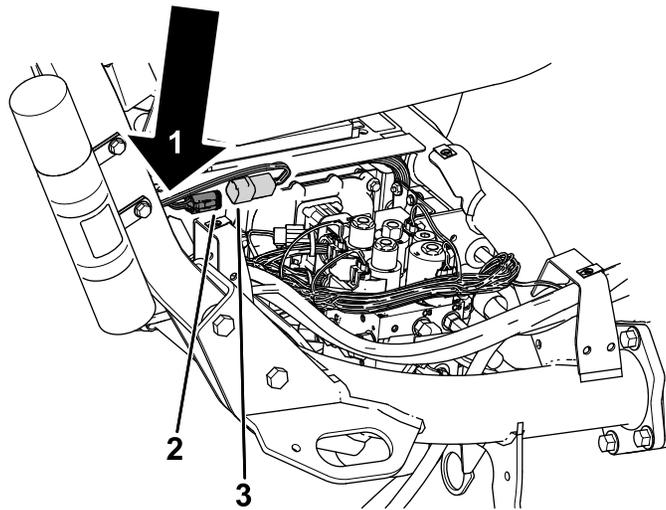

**Figure 9**
4. Remove the right side cover (Figure 9) from the machine.
- 8. Install the right side cover to the machine (Figure 9).